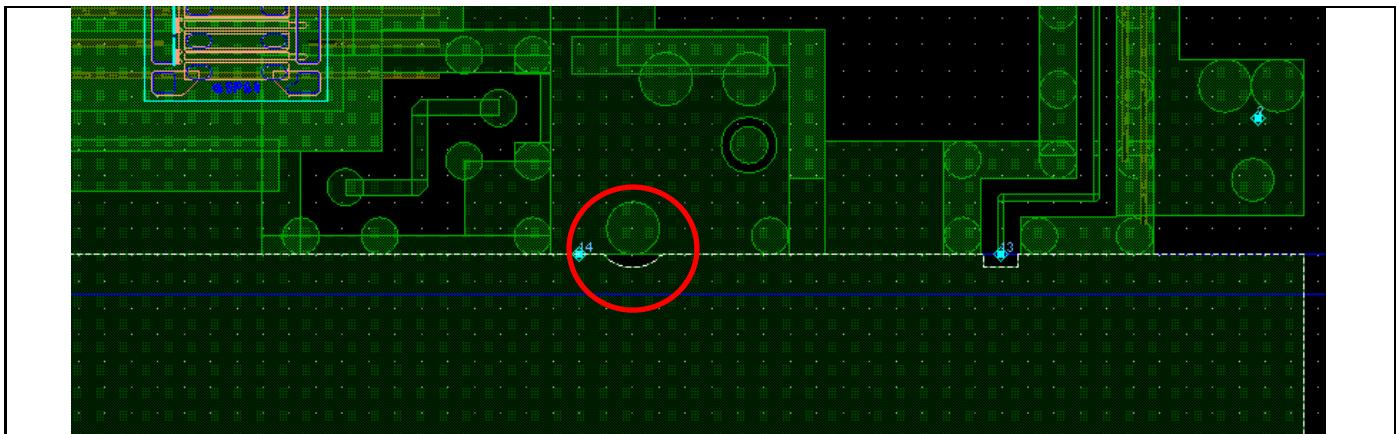

Figure 48 Example of ground plane support check showing one error
- All ground planes/layout elements need to be on the net gnd! to allow for the use of ground planes in the top cells. (required for all subcells). This needs to be checked (proper ground plane connectivity). Figure 48 shows an example based on layer on how to check to proper support the use of ground planes on top level layouts. The red circle in Figure 48 shows an example of an error the via annular ring in this case is not properly on the net ground in this case causing a problem in the ground plane connection adjacent to the via. This would need to be resolved prior releasing the layout.